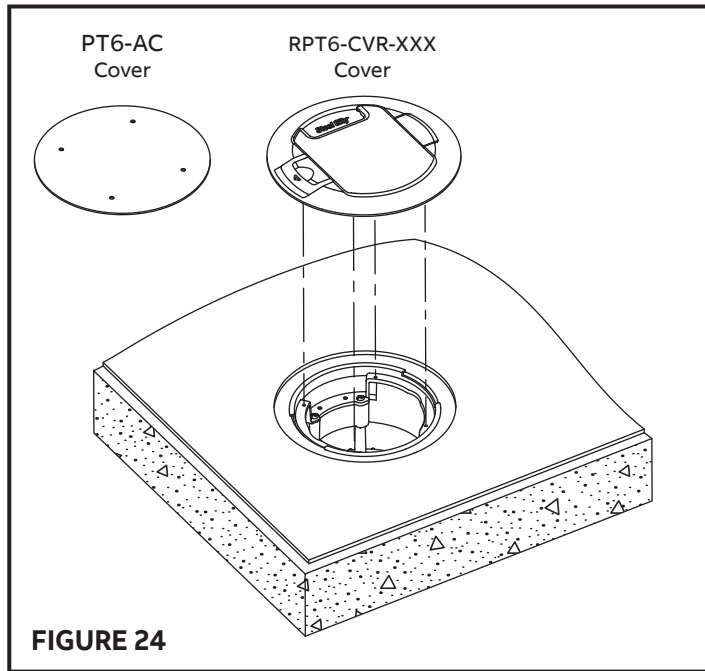

FIGURE 24
9.1 ABANDONMENT/TEMPORARY COVER PT6-AC (sold separately). Install to protect Poke-Through and Devices UNTIL AFTER construction debris is cleared. Remove and install RPT6 Cover to activate floor box (Figure 24).